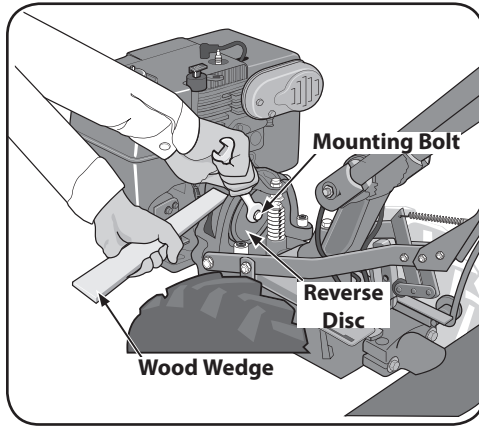

Figure 5-30
3. Use a $\frac{1}{2}$ " wrench to loosen the mounting bolt shown in Figure 5-30. Remember to immobilize the pulley with the wood wedge while loosening the bolt. If necessary, pry the disc from the pulley with the tip of a screwdriver. Back the bolt out as far as possible. Then angle the disc a little to remove it. Bring the bolt and lockwasher along with the disc. Installing a new Reverse Disc.